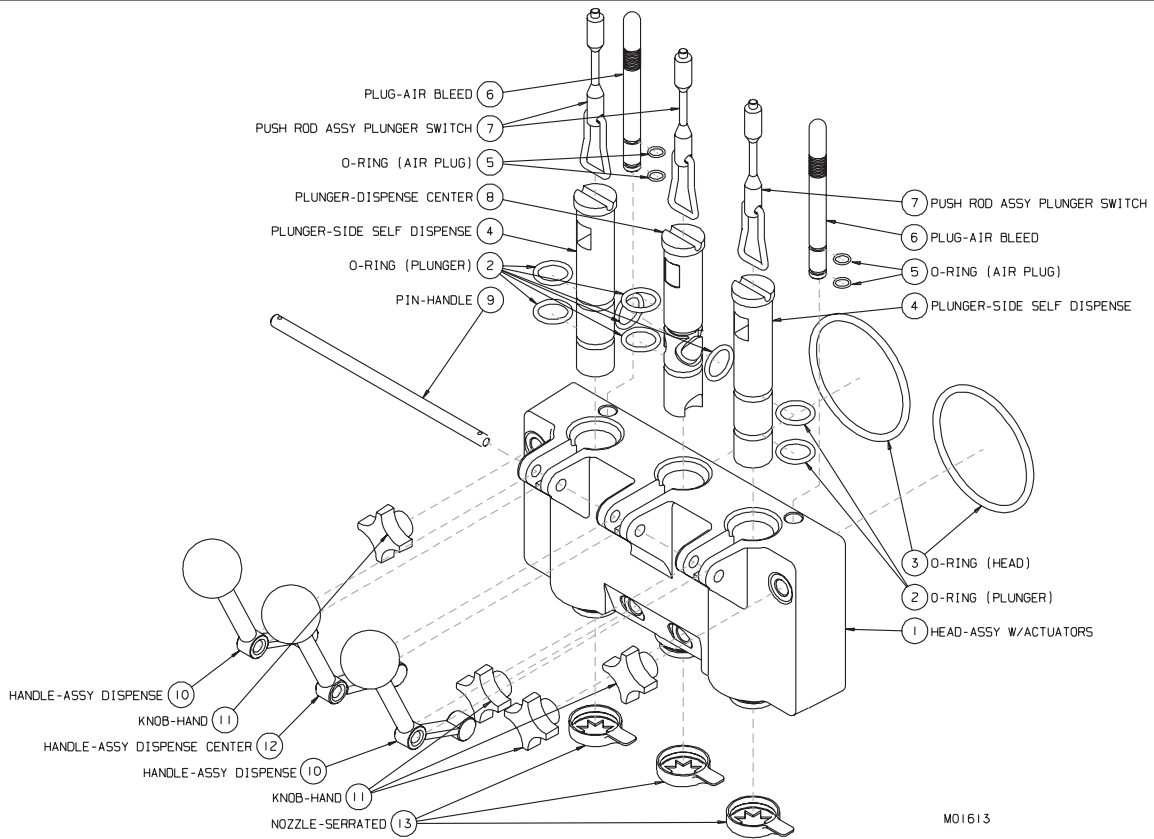

Figure 8-4 Head Assembly
5. (Refer to figure 8-4.) Install and then lubricate the O-rings (2) on the plungers (4&8) and insert plunger halfway into dispensing head (1).
6. Install and then lubricate the 4-inch head O-rings (3).
7. Position the handle (10&12) in the plungers (4&8) and dispensing head (1). Lock in place with the handle pin (9).
8. Install and lubricate O-rings (5) on the air bleed plug (6). Insert plug in the dispensing head (1) assembly.